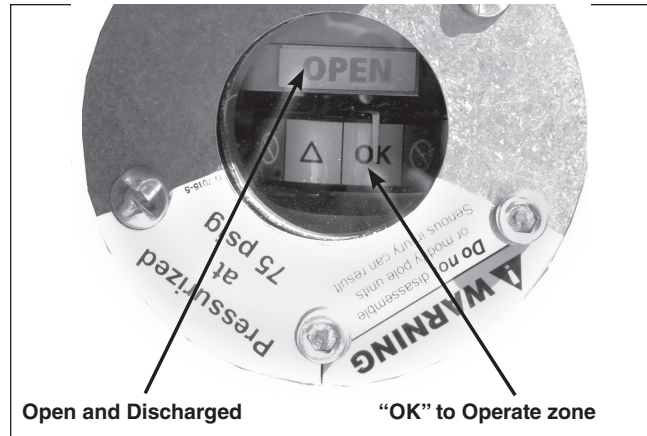

Figure 21. Make sure the pole-unit is open and discharged. Also make sure the gas-pressure indicator is in “OK” to Operate zone.
STEP 18. Check the indicator at the base of each pole-unit to make sure the pole-unit is open and discharged. Also check that the gas-pressure indicator is in the “OK” to Operate zone. See Figure 21.